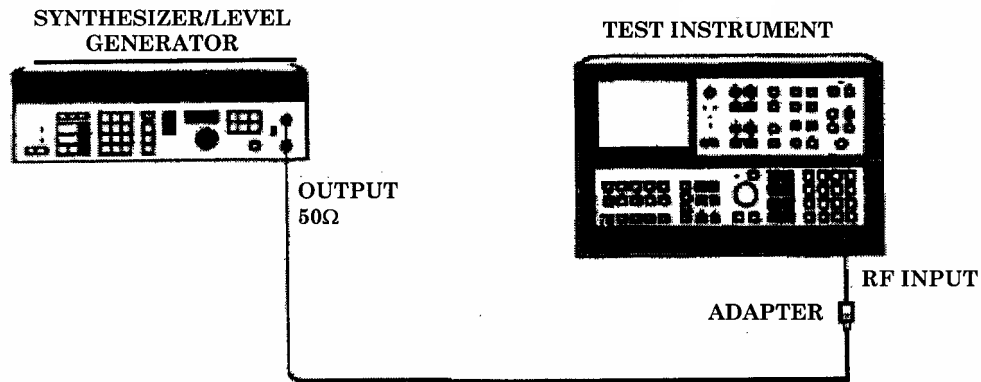

Figure 26. Scale fidelity connection.
- (1) Press TI **2-22 GHz**.
- (2) Connect equipment as shown in fig. 26.